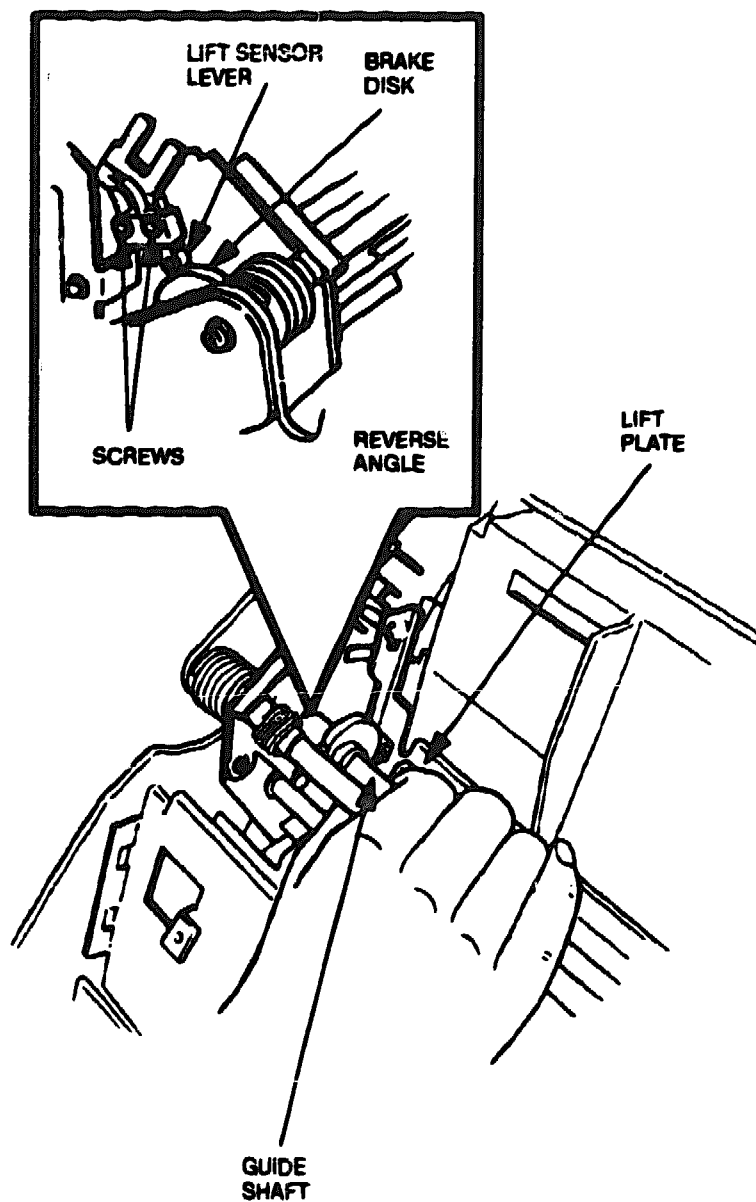

Figure 4-16 Lift Sensor Subassembly Adjustment
2. Turn the lift shaft so that the lift plate is in the lower position. Then check that the brake shown in Figure 4-16 presses on the lift sensor subassembly lever. If the brake does not press against the lever, proceed as follows.
3. Open the upper unit and loosen the screws on the lift sensor subassembly (see Figure 4-16).